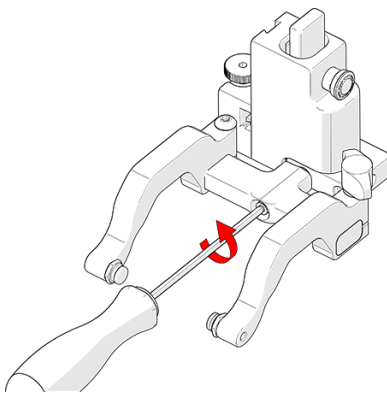

Figure 3-27 Remove yoke
1. Using the supplied 3 mm driver, unscrew the yoke (see Figure 3-27 on page 60).
1. Remove the yoke using the supplied 3 mm hex driver (see Figure 3-27 on page 60).